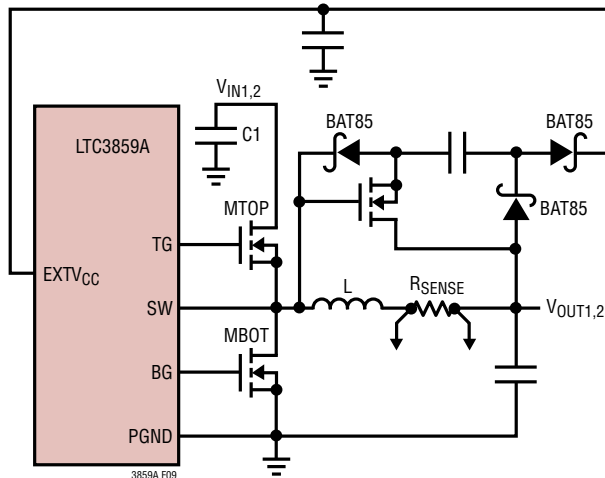

Figure 9. Capacitive Charge Pump for  $EXTV_{CC}$
4.  $EXTV_{CC}$  connected to an output-derived boost network off one of the buck regulators. For 3.3V and other low voltage buck regulators, efficiency gains can still be realized by connecting  $EXTV_{CC}$  to an output-derived voltage that has been boosted to greater than 4.7V. This can be done with the capacitive charge pump shown in Figure 9. Ensure that  $EXTV_{CC} < V_{BIAS}$ .